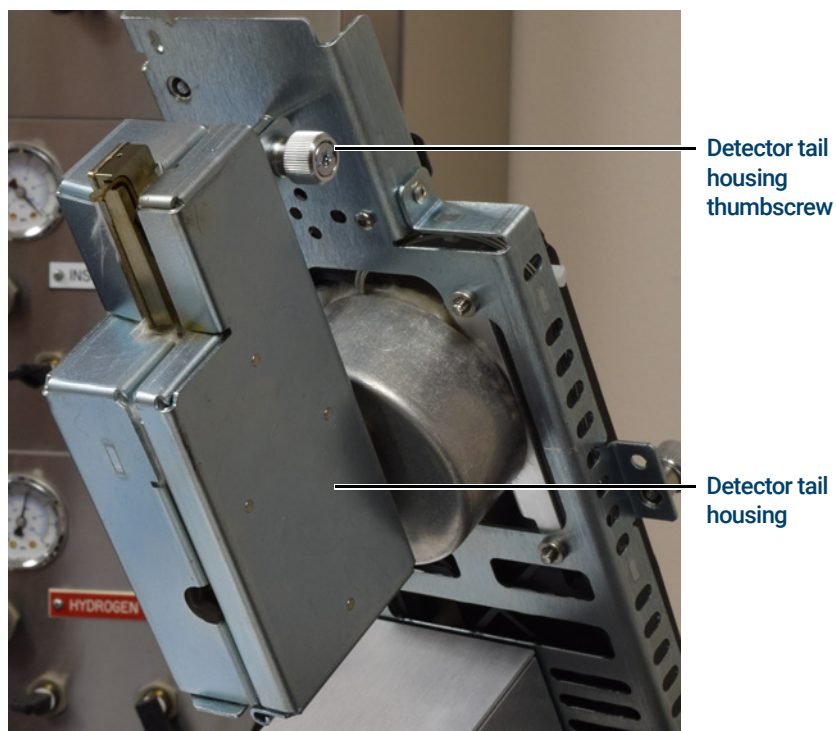

Figure 15. Detector tail housing thumbscrew
- a** Completely loosen the detector tail housing thumbscrew. See **Figure 15**.
- 28** Completely loosen the detector tail housing thumbscrew. See **Figure 15**.